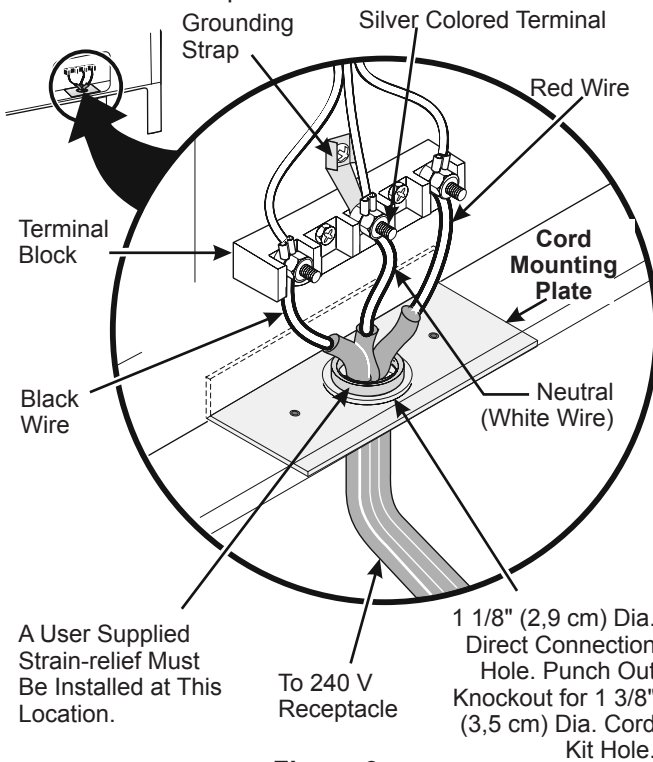

Figure 3
NOTE: Electric Slide-in Range is shipped from factory with 1 1/8" (2,9 cm) dia. hole as shown on figure 3. If a larger hole is required, punch out the knockout.
If local codes permit connection of the frame grounding conductor to the neutral wire of the copper power supply cord (see Figure 3):
2. Using the nuts supplied in the literature package, connect the neutral of the copper power supply cord to the center silver-colored terminal of the terminal block, and connect the other wires to the outer terminals. Match wires and terminals by color (red wires connected to the right terminal, black wires connected to the left terminal) (see figure 3).